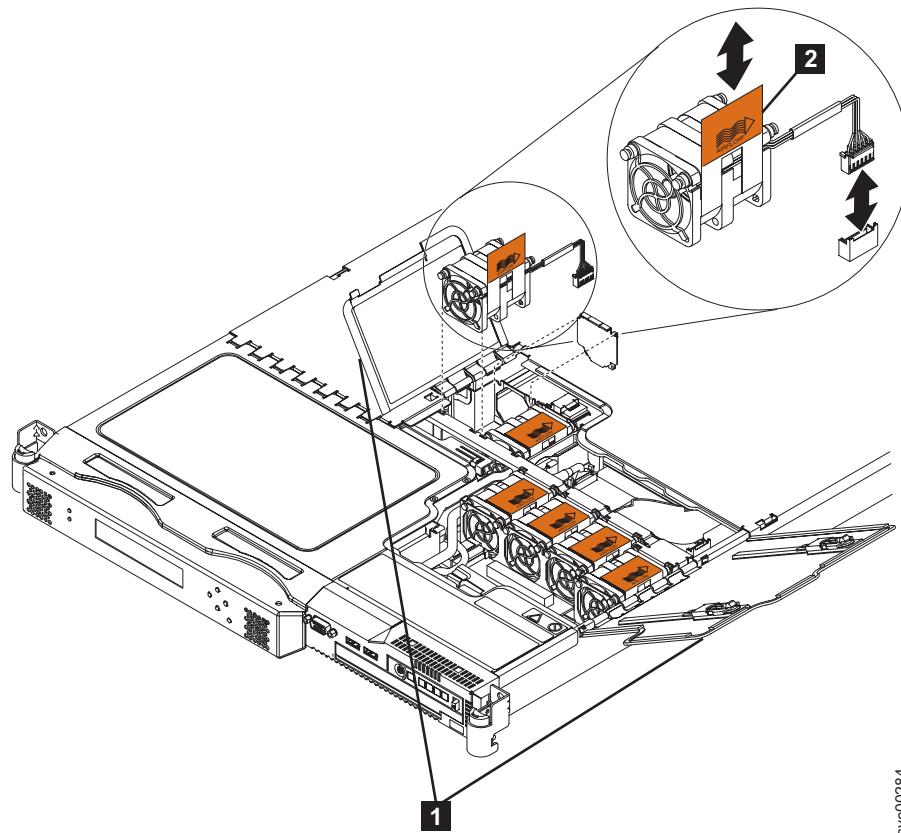

Figure 222. SAN Volume Controller 2145-8G4 fan doors, locations, and connectors
1. Orient the new fan in the same position as the fan that you removed. Make sure that the airflow indicator on the orange tab, (**2** in Figure 222) is pointing to the rear of the node.